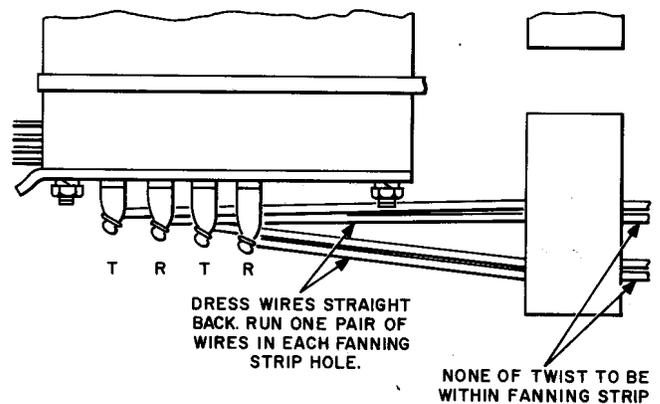
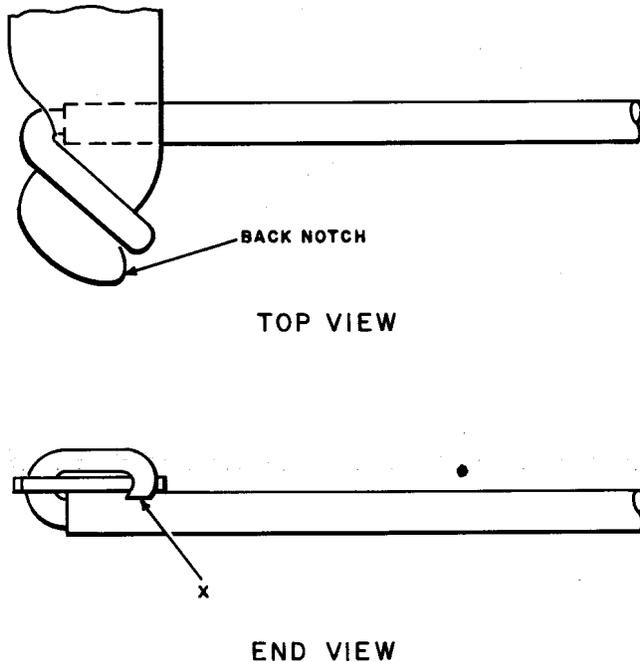

Fig. 4—Termination of Wire on 444-Type Jacks at MDF
Fig. 5—Termination of Wire on Terminal With a Back Notch
7.07 To terminate a wire on a 444-type jack, pass the wire through the proper hole in the fanning strip, as shown in Fig. 4. Bring the wire under the terminal, up through the notch, across the top of the terminal, and down through the back notch, as shown in Fig. 5. Cut or break the excess wire at point "X".